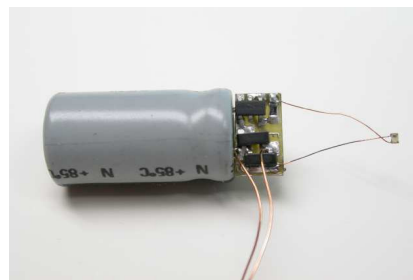

figure 2: correct connection of the LEDs
7. In figure 2 you can see as well the connections for the LEDs. The component operates up to maximal 3 LEDs in red. All the LEDs have to be connected in parallel. The brightness has been set fixed by us with a resistor. The component works best with our LEDs 7050 or 8100. Other degrees of brightness can only be obtained by changing the resistor. After consultation with your local dealer, it is normally also possible to operate yellow LEDs with the component. Other colors than red or yellow can not be operated with this component.